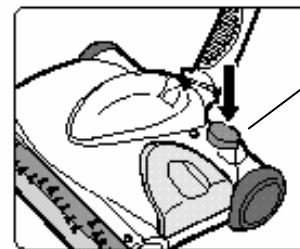

Fig. 4
2. Push the On/Off switch to operate the unit. To turn off, press switch again. (Fig. 4)